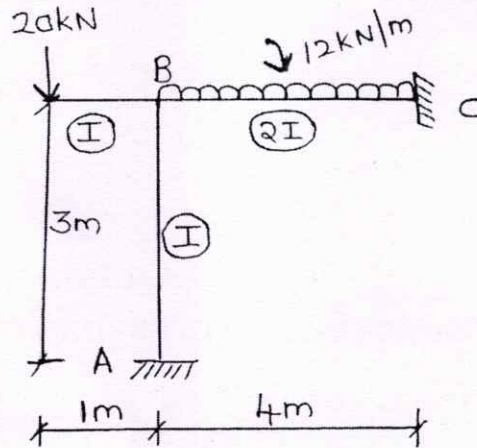

Fig. 3
- 3 a) Analyse the frame shown in Fig. 3 using slope deflection method. Draw the (15)